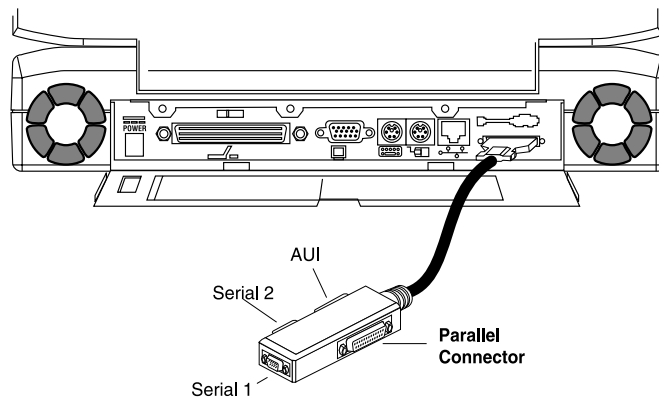

Figure 3-8 Serial Parallel and AUI Connections
The PrecisionBook back panel has a 50-pin connector housing two serial ports, a parallel port, and an AUI (see Figure 3-8).
3. The other end of the I/O break-out cable has two 9-pin connectors for attaching serial devices a 25-pin parallel connector for attaching parallel devices, and a 15-pin AUI connector for attaching other workstation devices (see Figure 3-8). Make the appropriate serial and parallel connections.